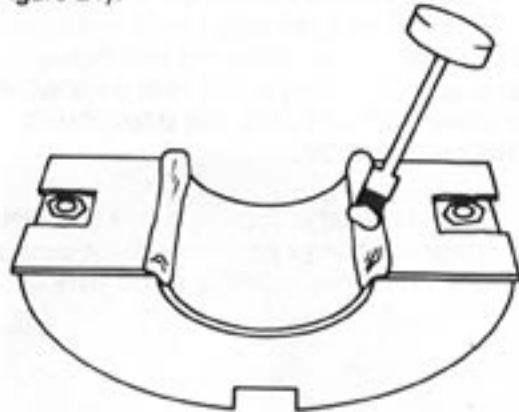

FIGURE 21 - APPLYING C-CEMENT TO END PLATE HALF
8.03 Before applying the prepared End Plate halves to cable, apply the C-Cement 1/2" (1.27 cm) wide adjacent to the hole and 1/2" wide into the hole for the total width of the End Plate (Figure 21).